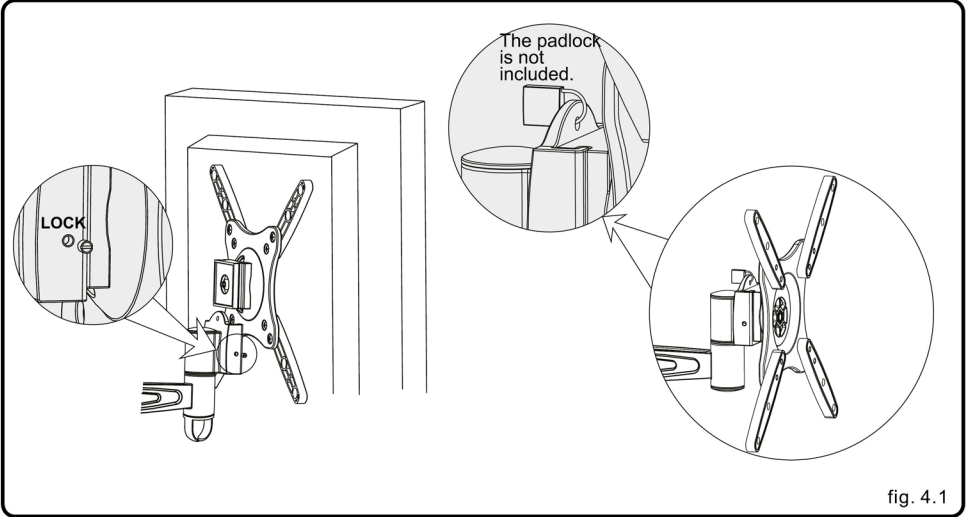

fig. 4.1
- Place the adapter bracket mounted display onto the plate of Articulated Arm Assembly, as shown in fig 4.1.
- Tighten the safety screws through the mounting holes till the display can be fixed, do not over tighten! As shown in fig 4.1.